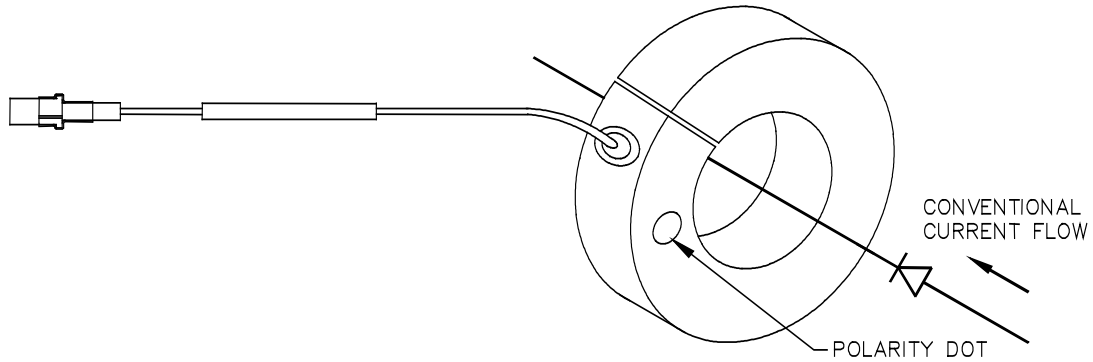

Figure 6.1
- a.) Place current sensors on device paths in the proper direction (conventional plus-to-minus current flowing into the polarity dot). Proper Flexible Current Sensor mounting is shown in Figure 6.1.